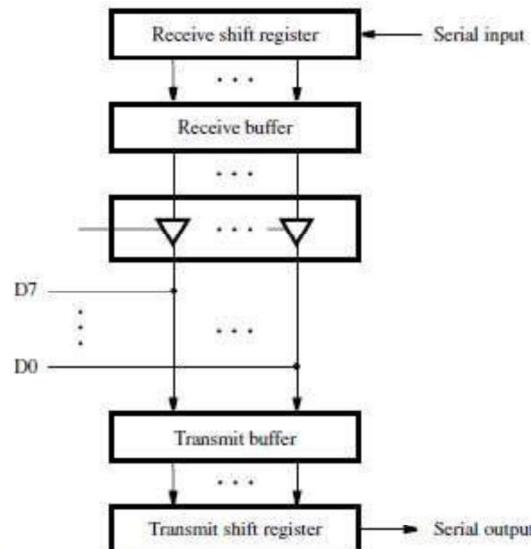

Figure 10.7 Receive and transmit structure of the serial interface.
- The serial interface provides the UART capability to transfer data (Figure 10.7). (UART → Universal Asynchronous Receiver/Transmitter).